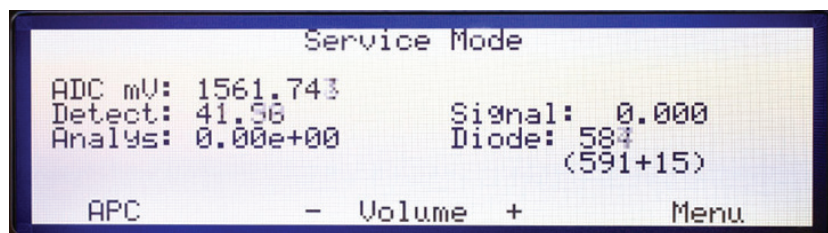

Figure E-3: Service mode screen
b. Check that the Signal is 0.00E+00 (see See Figure E-3: "Service mode screen")